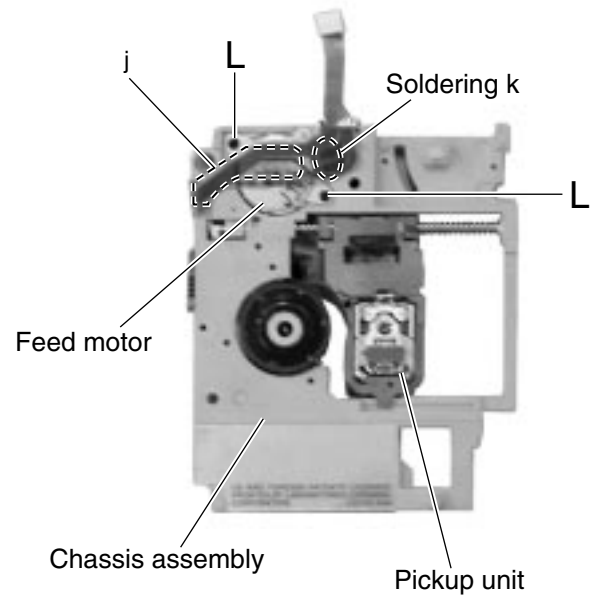

Fig.14
■ Removing the feed motor (See Fig.14)